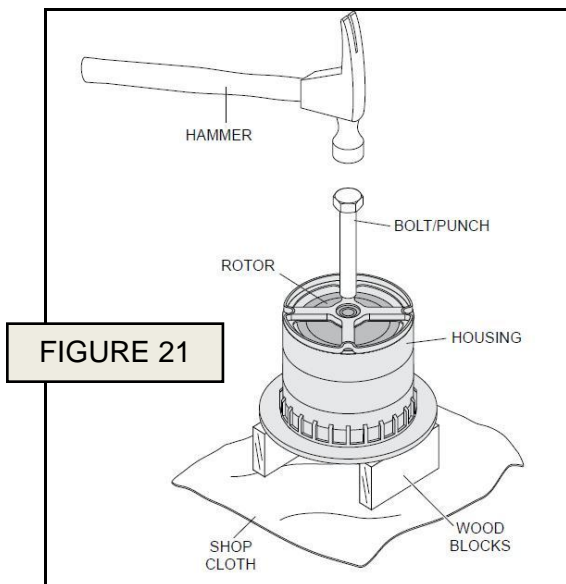

FIGURE 21
1. Free the rotor from the housing by placing the generator disc plate down on top of two wood blocks. Place a shop cloth below to keep the rotor clean. Place a bolt or punch in the center of the rotor bearing and hit with a hammer to dislodge the rotor. See FIGURE 21.